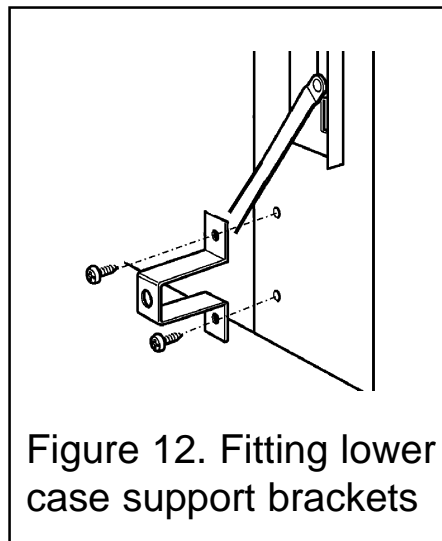

Figure 12. Fitting lower case support brackets
5. Fit the two lower case support brackets to the convection box side flanges. See figure 12.